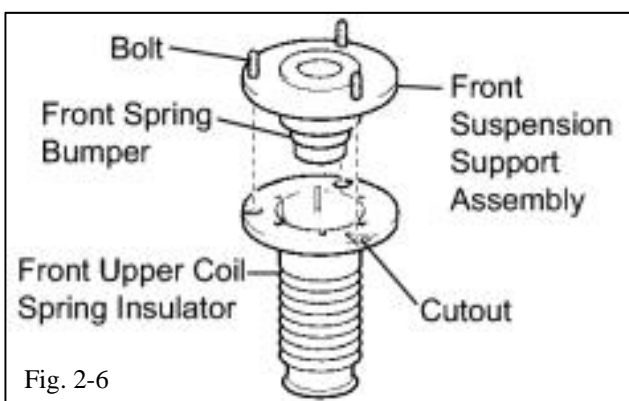

Fig. 2-6
- (j) Align the bolt heads of the front suspension support assembly with the cutouts of the front upper coil spring insulator (Fig. 2-6).
- (k) Install the front upper coil spring insulator on the front suspension support assembly (Fig. 2-6).